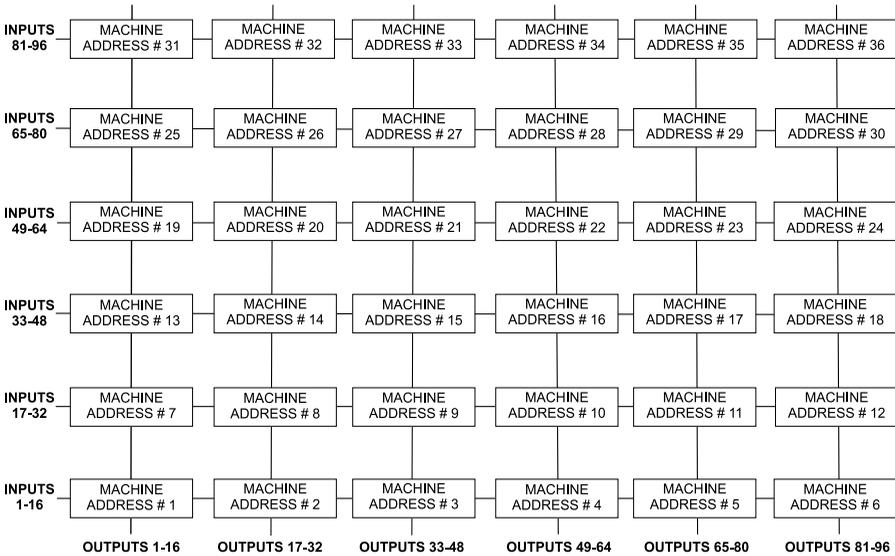
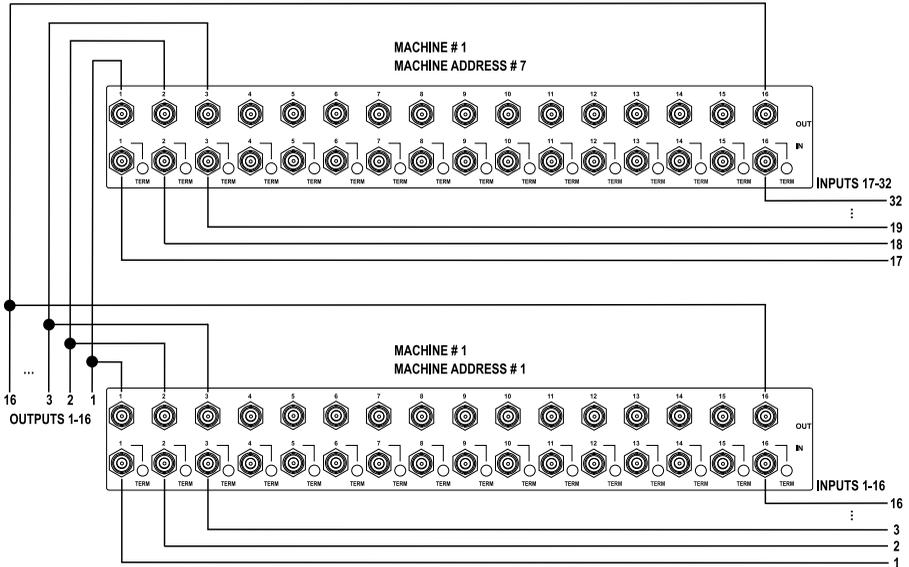
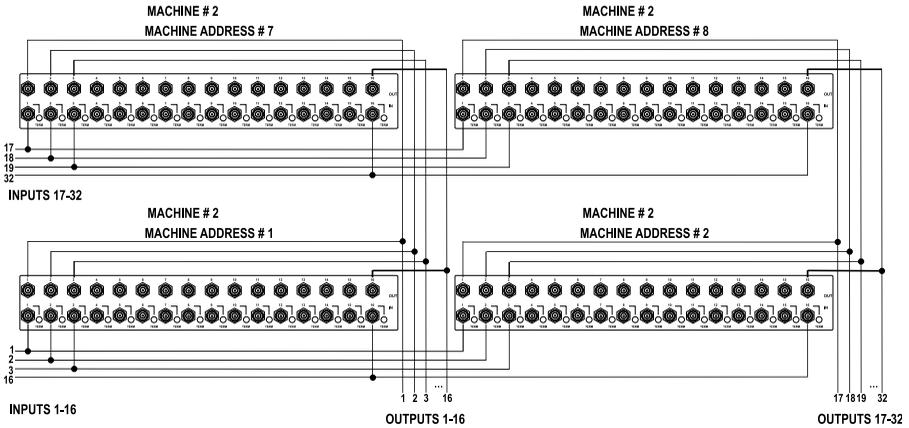

Figure 8: MACHINE ADDRESS # Designation
Figure 9: Connecting the 32x16 Switcher
Figure 10: Connecting the 32x32 Switcher
You can expand the number of inputs and outputs using several **VS-1616V** units¹. Set the **MACHINE ADDRESS #** (see section 6.5.2) on each **VS-1616V** unit to define which inputs and outputs are configured to that particular unit when expanding, as the chart in Figure 8 illustrates.
For example, to connect a 48x64 switcher (48 inputs and 64 outputs), you would configure using **MACHINE ADDRESS # 1, 2, 3, 4; 7, 8, 9, 10; 13, 14, 15 and 16**. You can only choose a rectangular² configuration from the chart in Figure 8.
As can be seen in Figure 8, a 32x16 switcher consists of 2 **VS-1616V** units (**MACHINE ADDRESS # 1** and **MACHINE ADDRESS # 7**). To assemble, as Figure 9 illustrates:
3 For a single group, this is usually set to # 1, as in the example in Figure 9
2. Set the MACHINE ADDRESS # on one **VS-1616V** unit to 1 and on the other **VS-1616V** unit to 7 (refer to Figure 8).
As can be seen in Figure 8, a 32x32 switcher consists of 4 **VS-1616V** units (MACHINE ADDRESS # 1, MACHINE ADDRESS # 2, MACHINE ADDRESS # 7 and MACHINE ADDRESS # 8). To assemble, as Figure 10 illustrates:
2. Set the MACHINE ADDRESS # to 1, 2, 7 and 8 on each of the 4 units, respectively (refer to Figure 8).
¹ Set to # 1 in most cases. In the example in Figure 10, the MACHINE # is set to # 2
The MACHINE ADDRESS # is determined via the MACHINE ADDRESS Menu command, as section 8.4 describes. The MACHINE ADDRESS # defines which inputs and outputs are configured to that particular unit when expanding, as the chart in Figure 8 illustrates.